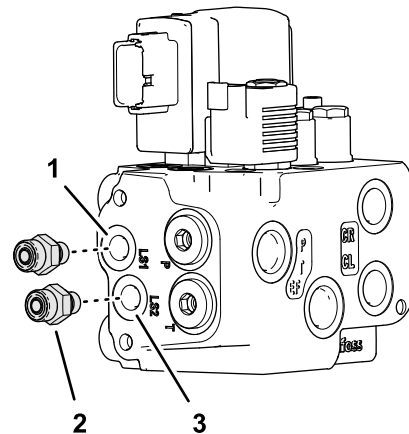

Figure 32
1. Assemble 2 straight hydraulic fittings (-6 x 12 mm) into the EHI steering valve (Figure 32) as follows: